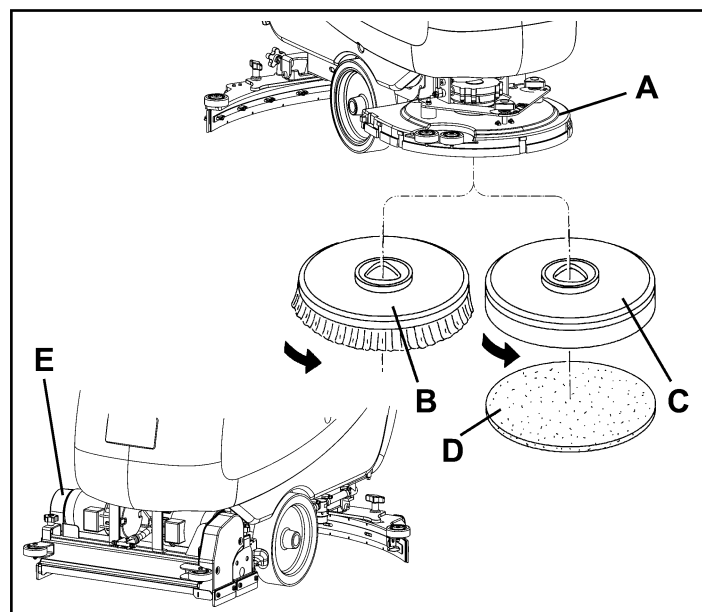
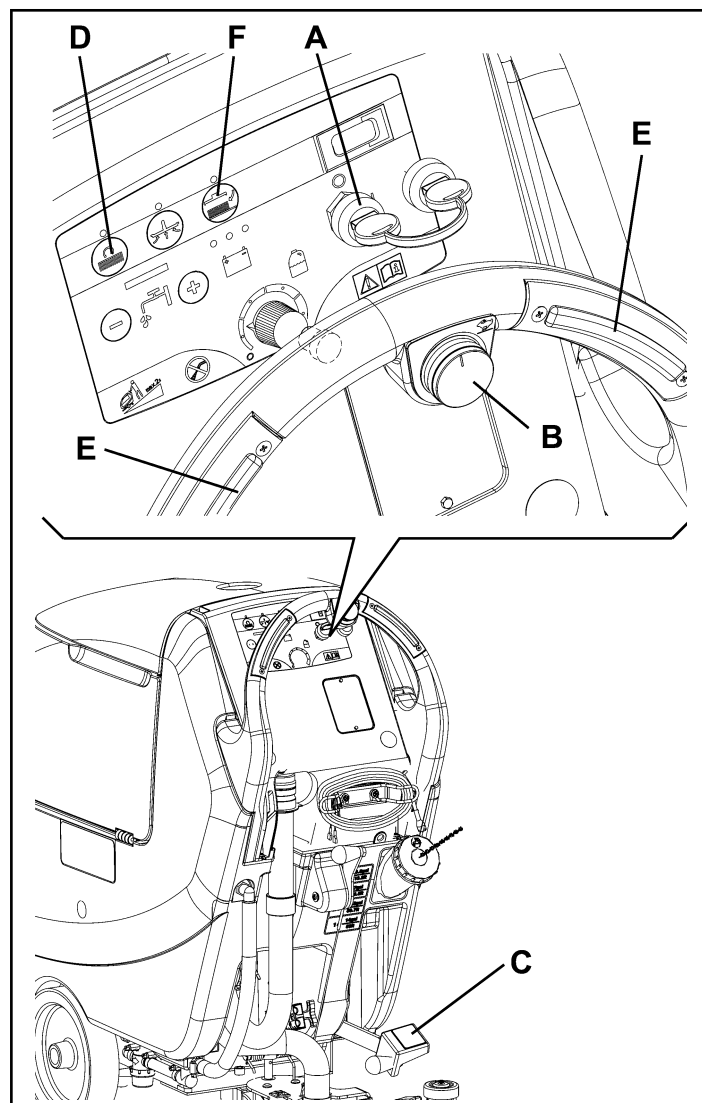

Figure 9
Figure 10
On the machine it is possible to install/remove either the brush/pad-holder deck (A, Fig. 9) or the cylindrical brush deck (E). For deck installation/removal see the procedure in Maintenance chapter.
1. According to the kind of cleaning to be performed, the machine can be equipped either with brushes (B) or pad-holders (C) with pads (D) together with the appropriate deck.
2. Insert the ignition key (A, Fig. 10) and turn it to "I".
3. If equipped, turn the speed adjuster (B) to idle by turning it counter-clockwise.
4. Place the brushes (B, Fig. 9) or the pad-holder (C) under the 17 in / 20 in (430 mm / 530 mm) deck (A).
5. Lower the deck on the brushes/pad-holders by pressing the pedal (C, Fig. 10).
6. Turn the ignition key (A) to "I".
7. Press the brush/pad-holder switch (D).
8. Press one of the switches (E) to engage the brush/pad-holder, then release it. If necessary, repeat the procedure until the brushes/pad-holders are engaged.
(Only for FOCUS II L17, FOCUS II L20): Turn the speed adjuster (B, Fig. 10) counter-clockwise to drive the machine at the minimum speed.